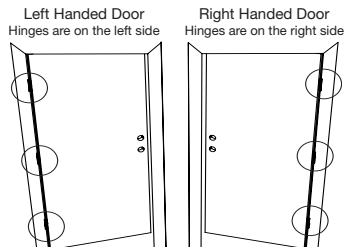

Figure 2b
- If the hinges are on the right your door is Right Handed (Figure 2b).
- Place Mounting Plate against door with tailpiece passing through the center hole in the three hole set (Figure 2b).